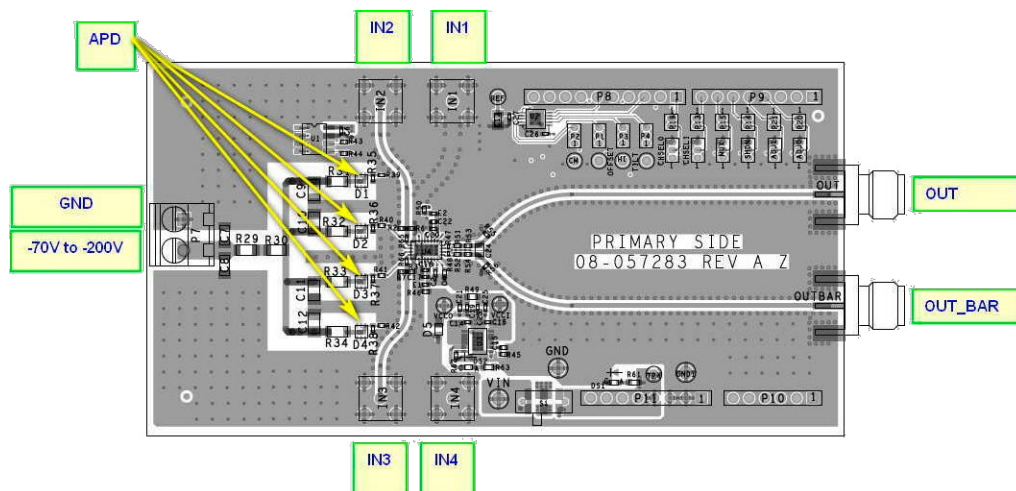

Figure 1. Connection Diagram (IN1 to IN4 Optional for Electrical Testing Only)
10. Using an external 400nm to 1100nm wavelength pulsed laser, similar to the one identified in the Equipment List as the ST micro light source, illuminate the APDs, which are identified in Figure 1. With the default board setting which selects IN1 or Ch1 (CHSEL0 = CHSEL1 = 0), position the laser to illuminate the Ch1 APD (D1).